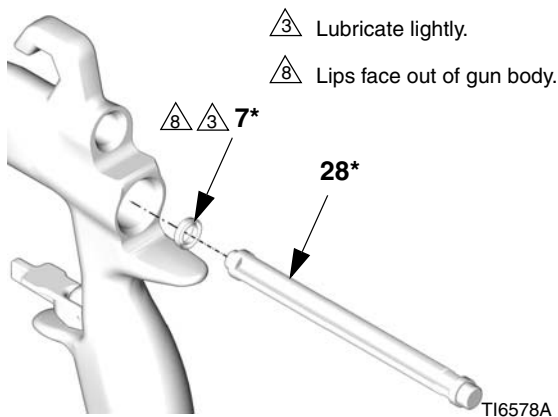

FIG. 41
3. Place the new u-cup (7\*) on the seal installation tool (28\*), with the u-cup lips facing the tool as shown in FIG. 41. Push the u-cup into the back of the gun until you feel a definite snap.